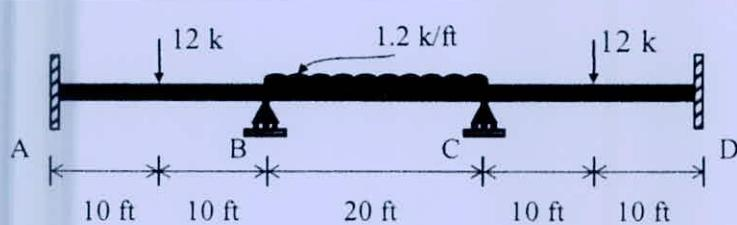

Figure 12
- (c) Analyze the beam shown in Figure 12 using moment distribution method. Draw shear force and bending moment diagrams. (12 1/4)